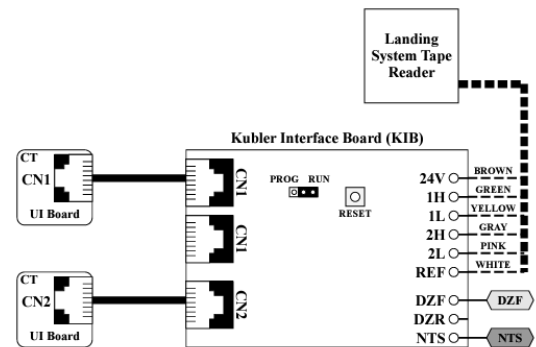

Figure 16: Sensor head connection to KIB Traction board.
20. Connect the 6 wires of the sensor for power and communication to the KIB Traction board located inside the CT Box. See Figure 16